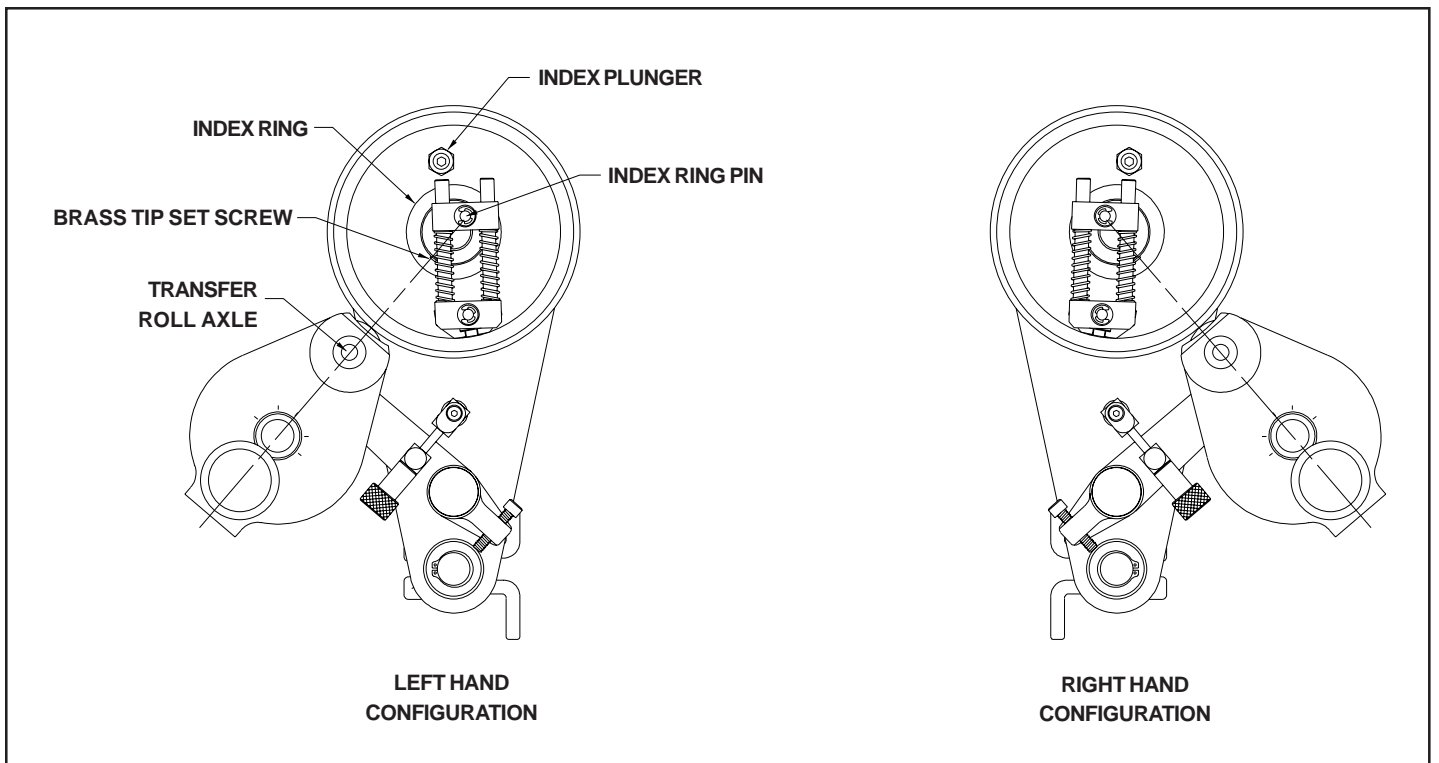

FIGURE 63
- 6- Rotate the Index Ring in a clockwise direction until it stops turning. Next, turn the Index Ring in the counterclockwise direction as necessary until the Brass Tip Set Screw is pointing directly at the Transfer Roll Axle as shown in Figure 63.